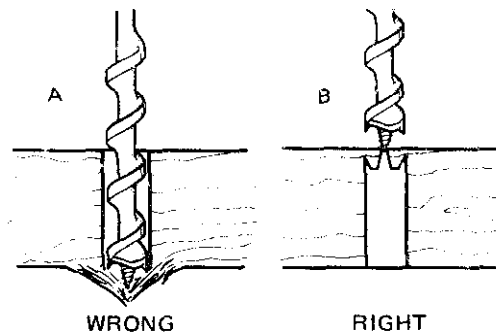

Fig. 10-35 Wrong and right methods of boring.
- h. Finish boring the hole from the opposite side of the board, using the feedscrew hole as a center. Use a light pressure and guard against breaking through to the starting side. See A, figure 10-35.